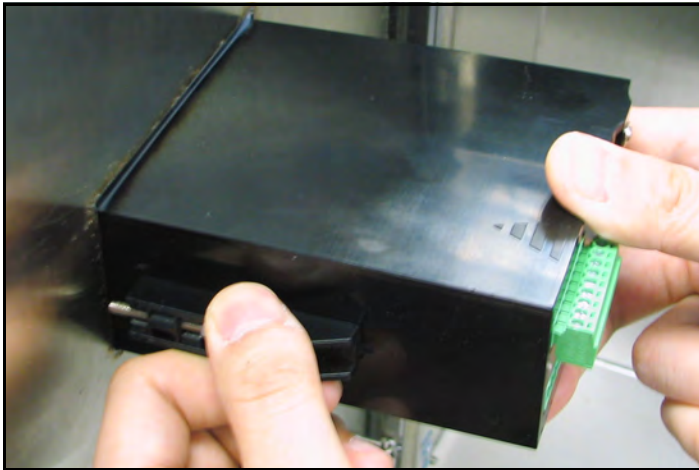

Figure 13: Locking the Mounting Brackets in Place
5. Hold the chassis and lock each mounting bracket in place by sliding it toward the rear of the *Single-Channel Hygrometer* (see Figure 13).